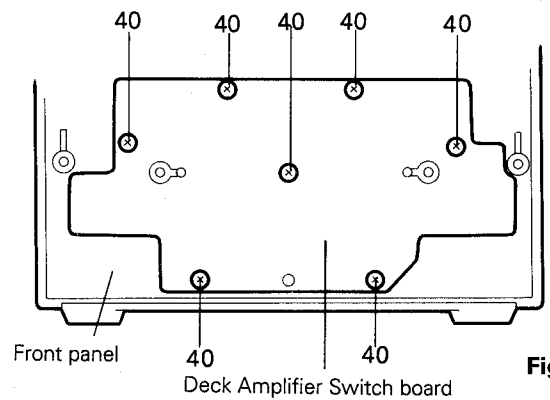

Fig. 7-4
■ Deck Amplifier Switch board (Fig. 7-4)